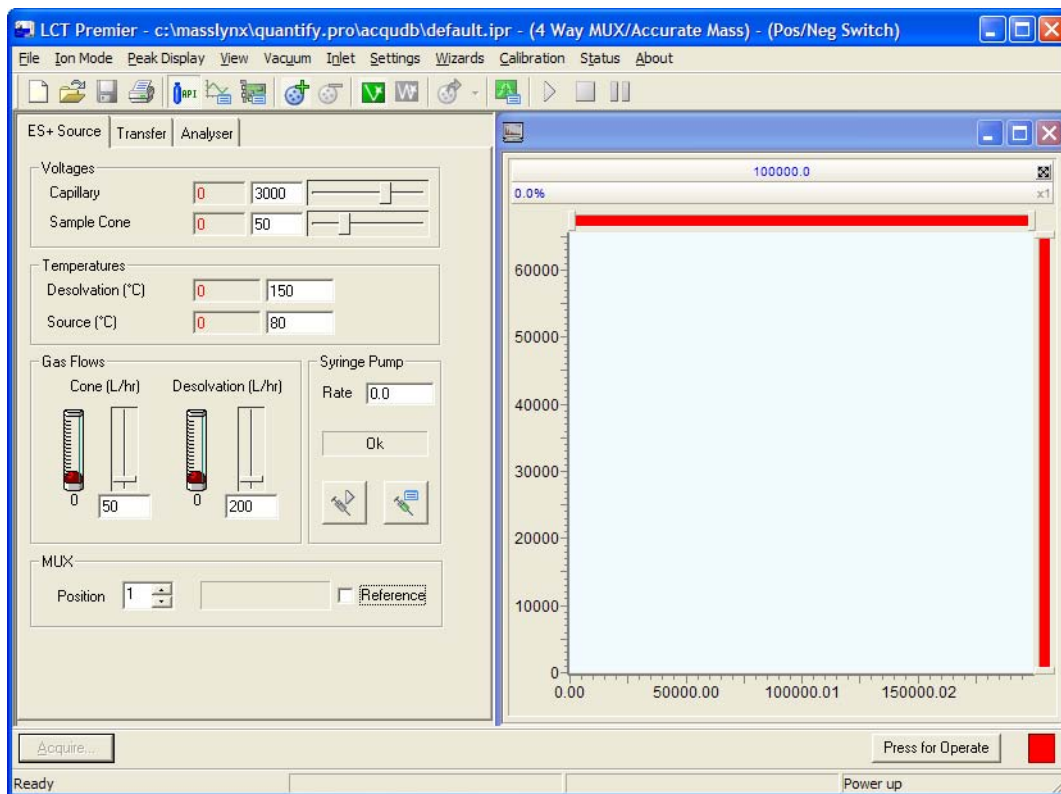

Figure 7-9 Tune Window: ES+ Source Page
7. Click the Instrument shortcut bar's MS Tune icon to open the Tune window (Figure 7-9).